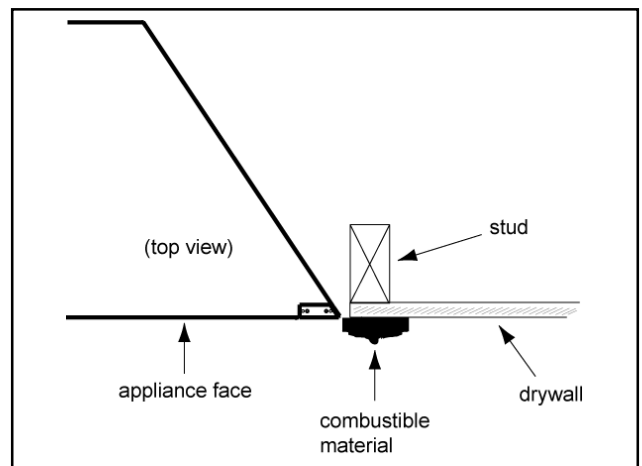

Figure 7 - Combustible Finishing Material
2. Combustible material **may cover** the black outer surface by  $\frac{1}{2}$ " on the 110/120v appliances only. See Figures 5-6. Combustible material **may not cover** the black outer surface on 208/220/240V appliances. See Figure 7. Grilles and air openings **cannot be covered** in any circumstances.